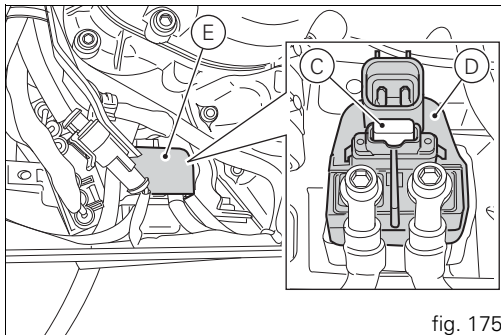

fig. 175
MASTER FUSE, protected by a 30A fuse located on the solenoid starter behind the battery (C, fig. 175).
The main fuse (C, fig. 175) is positioned next to the battery, on the solenoid starter (D). Remove the fuse cap (E) to reach it.